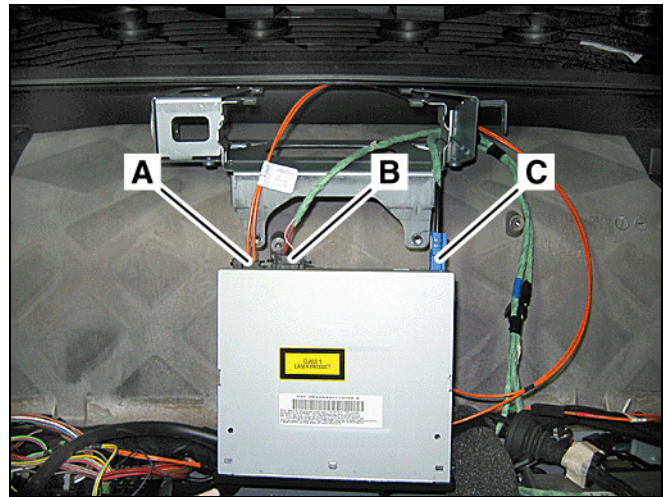

Figure 9
3. Connect the MOST connector to the CAR NAVIGATION processor (A, Figure 9).
4. Connect the power supply connector to the CAR NAVIGATION processor (B, Figure 9).
5. Connect the antenna connector to the CAR NAVIGATION processor (C, Figure 9).